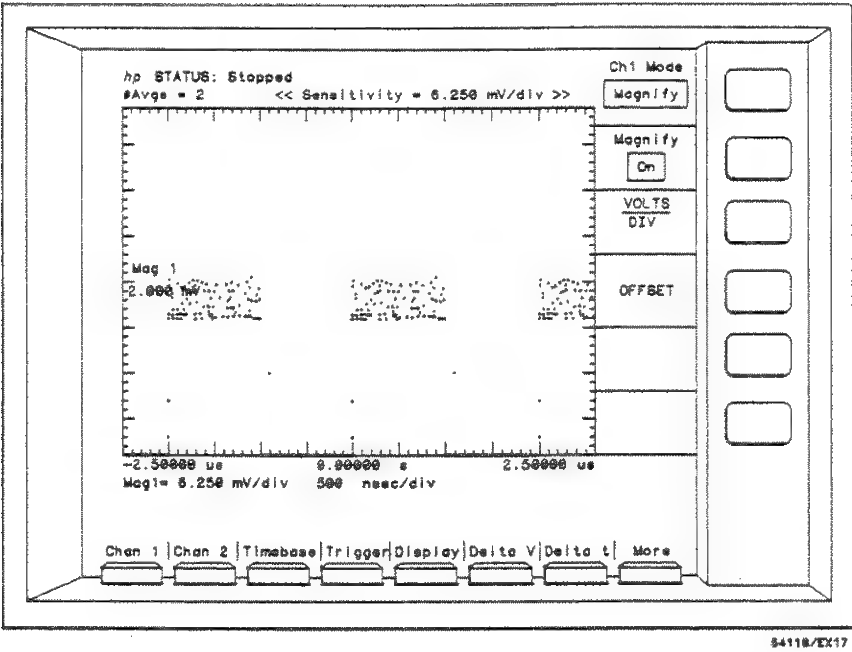

Figure 7-22. Magnify in the Averaged Mode with 2 Averages
9. Set NUMBER OF AVERAGES = 2 (see figure 7-22).